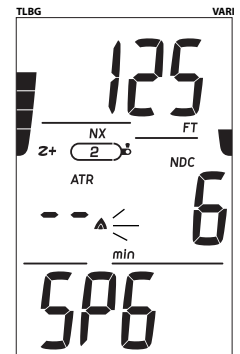

Fig. 72 - PO2 ALARM MAIN
**PO2 Alarm Main, during No Deco**, information includes (Fig. 72):